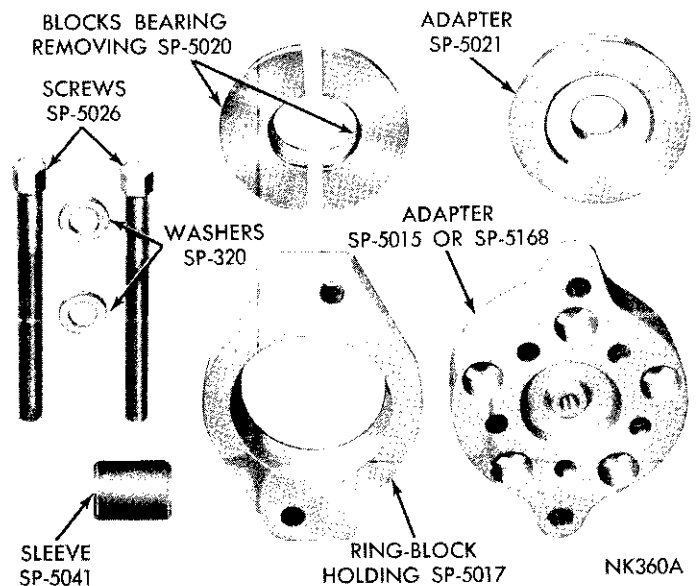
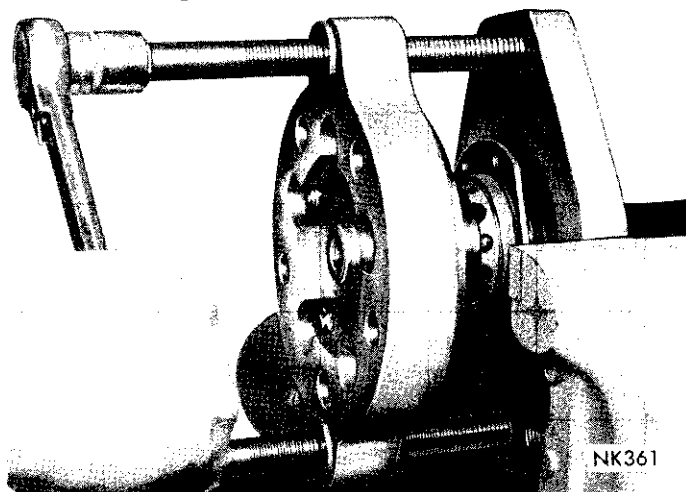

Fig. 3—Tool Set C-3971
Fig. 12—Removing Bearing Cone with Tool C-3971
(1) With wheels removed, remove clips holding brake drum on axle shaft studs and remove brake drum.
(2) Using access hole in axle shaft flange, remove retainer nuts, the right shaft with threaded adjuster in retainer plate will have a lock under one of the studs that should be removed at this time.
(3) Attach axle shaft remover Tool C-3971 (Fig. 3) use Tool C-3971 and adapter SP-5168 on Imperial only, to axle shaft flange and remove axle shaft. Remove brake assembly and gaskets.
(7) Remove the bearing cone using Tool C-3971 (Fig. 3). Tighten bolts of tool alternately until cone is removed (Fig. 12).
(9) Remove bearing cone using Tool C-3971 and adapter SP-5168. Tighten bolts of tool alternately until cone is removed (Fig. 12).
(10) Remove seal in bearing retainer plate and replace with new seal.